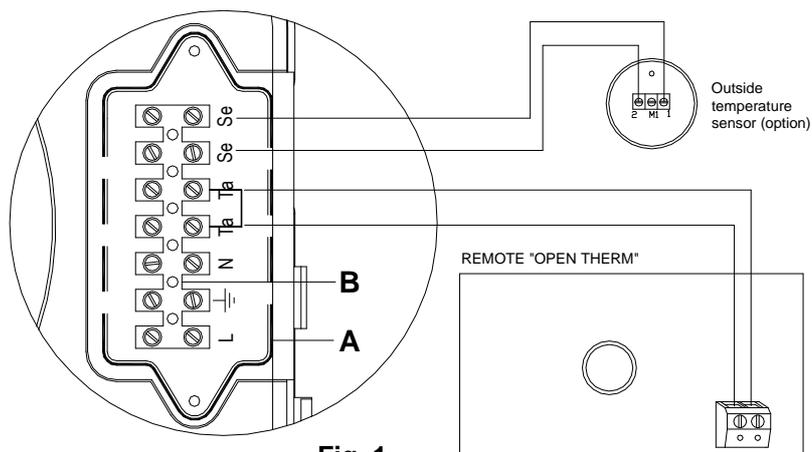

Fig. 1
- c. slacken the screws and remove plate A (see fig.1).
- slacken the screws and remove plate A (see fig.1).